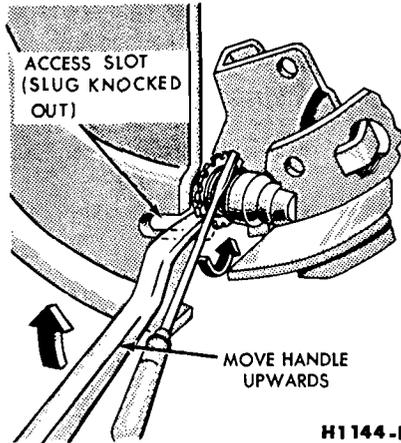

FIG. 15—Backing Off Brake Adjustment
2. Remove the drum. If the drum will not come off, knock the access slug out of the brake carrier plate, using a punch. Insert a narrow screwdriver through the slot and disengage the adjusting lever from the adjusting screw. While holding the adjusting lever away from the screw, back off the adjusting screw with the brake adjusting tool (Fig. 15). **Be very careful not to burr, chip, or damage the notches in the adjusting screws; otherwise the self-adjusting mechanism will not function properly.**
hole in the carrier plate, and disengage the adjusting lever from the adjusting screw. While holding the adjusting lever away from the adjusting screw, back off the adjusting screw with the brake adjusting tool (Fig. 15). **Be very careful not to burr, chip or damage the notches in the adjusting screw; otherwise, the self-adjusting mechanism will not function properly.**